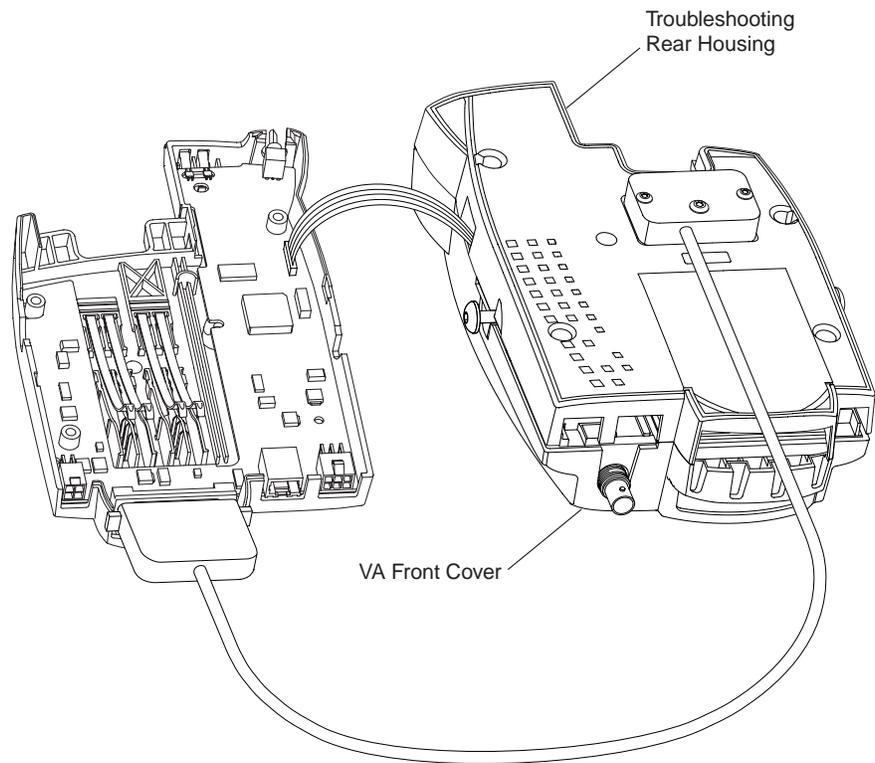

Figure 17 Placing the Troubleshooting Rear Housing on the Console Front Housing
8. While holding the flex extender in place as shown in Figure 17, place the troubleshooting rear housing (second part of NTN8982_) on the XTVA front cover/chassis assembly. Make sure that the flex Extender is securely held in place by the troubleshooting rear housing.